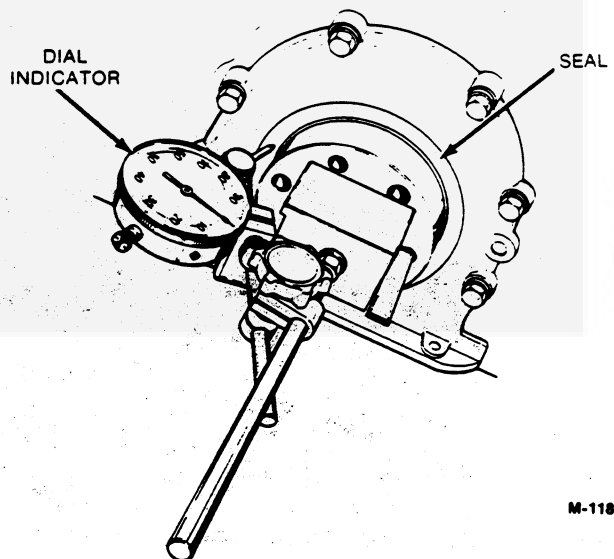

FIGURE 23. CHECKING CRANKSHAFT TO SEAL RUNOUT
- B. Mount a dial indicator on face of crankshaft flywheel mounting flange (Figure 23).